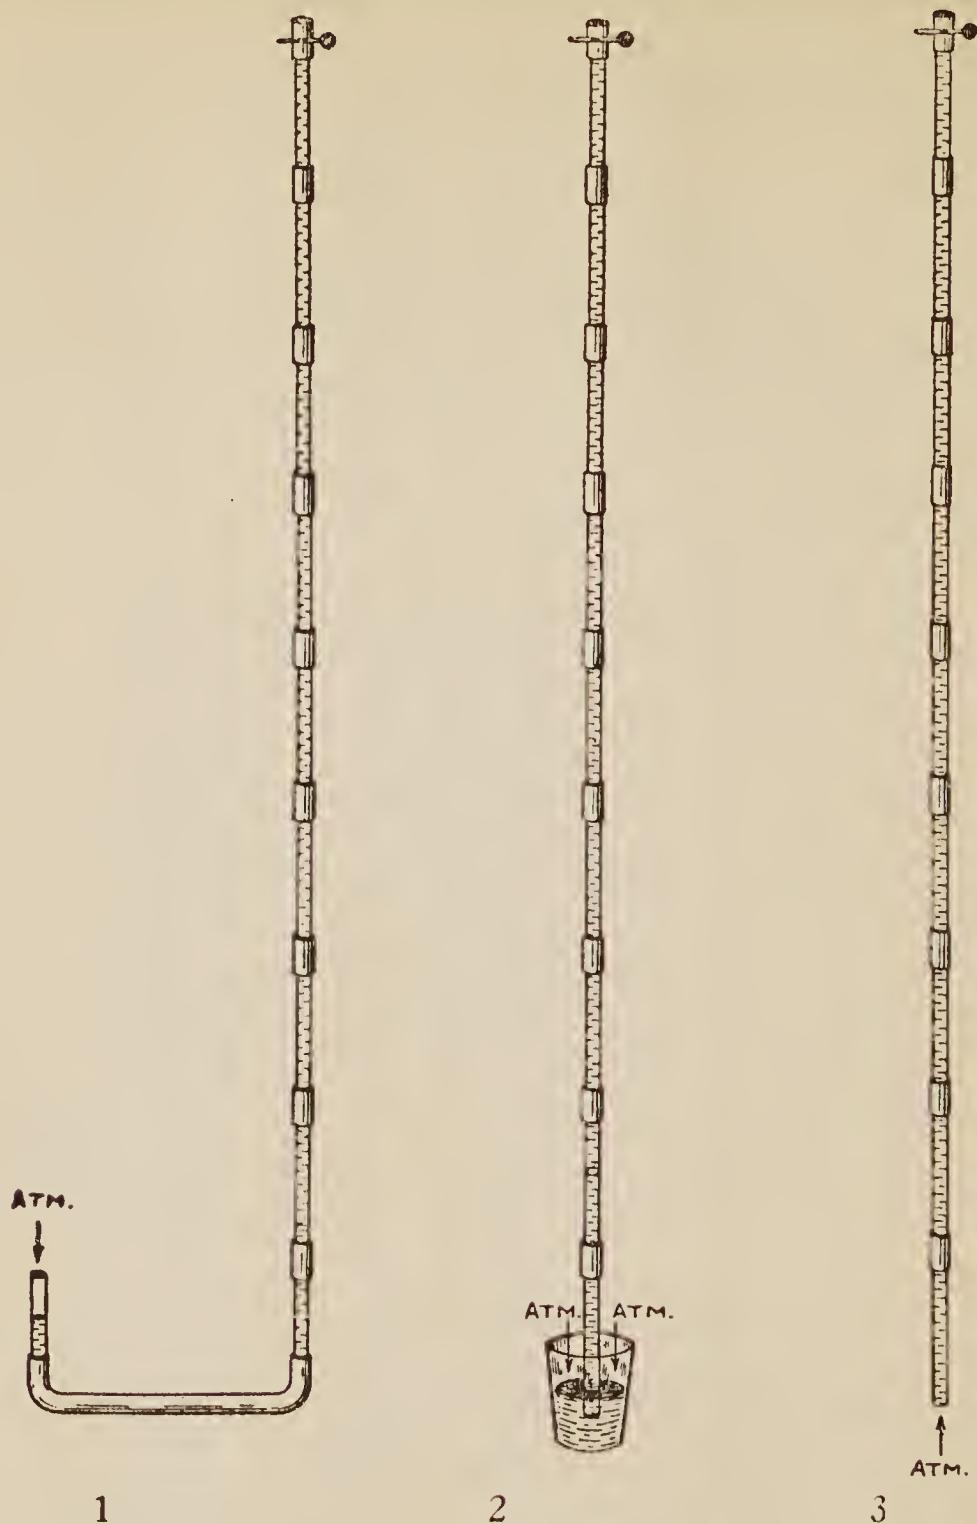

Fig. 53.—Showing That the Atmosphere Will Support Water.
Arrange the apparatus as in (1) Fig. 53, fill the tube with water, close one end with a clip and hold both ends in the position illustrated. Does the water remain in the tube? It remains because the pressure of the atmosphere downward on the water in the open tube supports the column of water in the long tube.
Arrange the apparatus as shown in (2) Fig. 53. Place the lower end of the tube in a tumbler of water, stand on a chair, and suck the air out of the tube, then close the upper end.
Lift the tube out of the tumbler, (3) Fig. 53, and the water will remain in the tube because it is supported by the upward pressure of the atmosphere. This is possible only with very narrow tubes. The tube you have used in these experiments is about 6 feet long and you have shown that the atmosphere will support a column of water 6 feet high. If you had a tube of sufficient length you could show that the atmosphere will support a column of water 34 feet high, but no more.